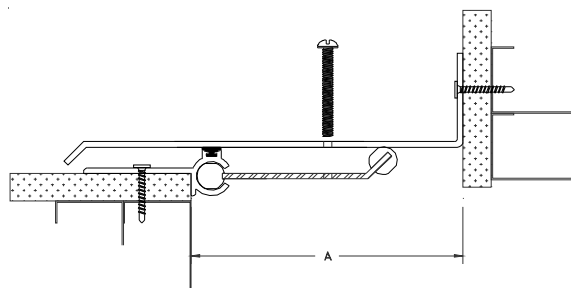

Figure 10
STEP 14. Insert one of the bolts through each of the anchor holes in the cover plate (see Figure 10). Ensure that the cover plate is level and properly aligned.